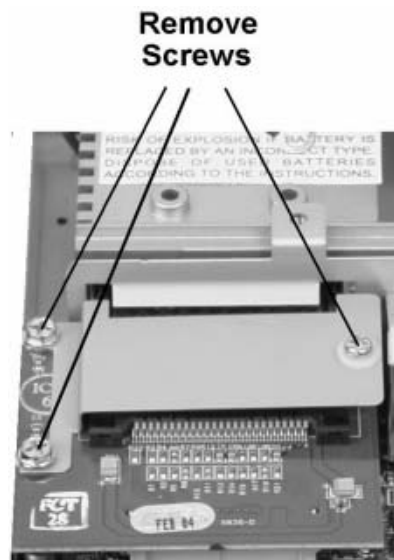

Figure 2-13: Removing the Compact Flash Daughter Card
3. Locate the CF Daughter card and remove the screws shown in Figure 2-13.